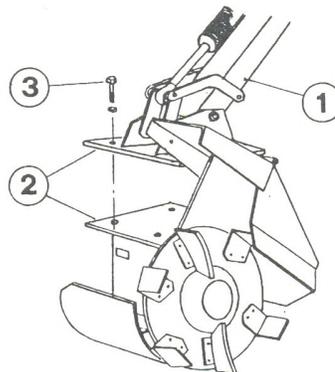

FIG. 7
4.2 *Fitting the ditch cleaner to the arm* (FIG. 7)
- Lower the arm (1) so that the tie plates correspond (2)
- Secure the ditch cleaner with the 4 screws M 16 (3)
- Tighten bolts and nuts; pay special attention to the screws fixing the ditch cleaner to the arm (3) FIG. 7 and to those fixing the flails